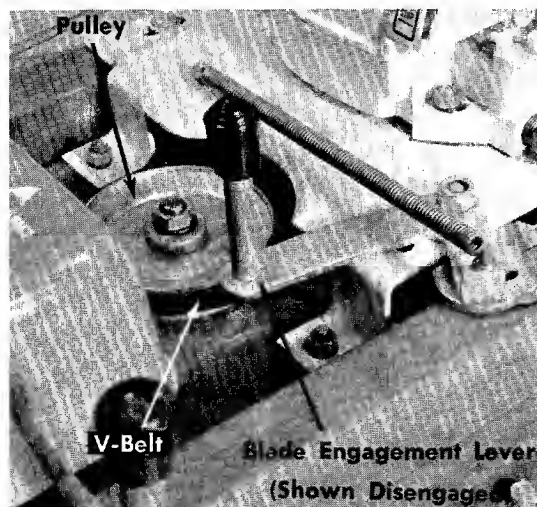
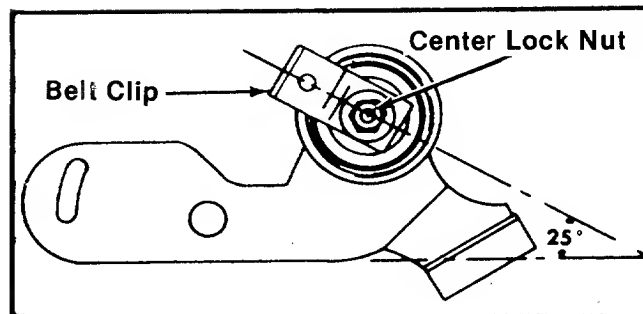

FIGURE 23. BLADE ENGAGEMENT LEVER
FIGURE 24. BELT IDLER
- Step 5. Remove the belt from the transmission idler. See figure 23.
- Step 5. Place the blade engagement lever in the engaged position (see figure 23) and loosen the center lock nut on the blade idler. See figure 24.
Use a 1/2" open end wrench. When installing the new belt be sure the belt clip is in the same position as shown in figure 24.